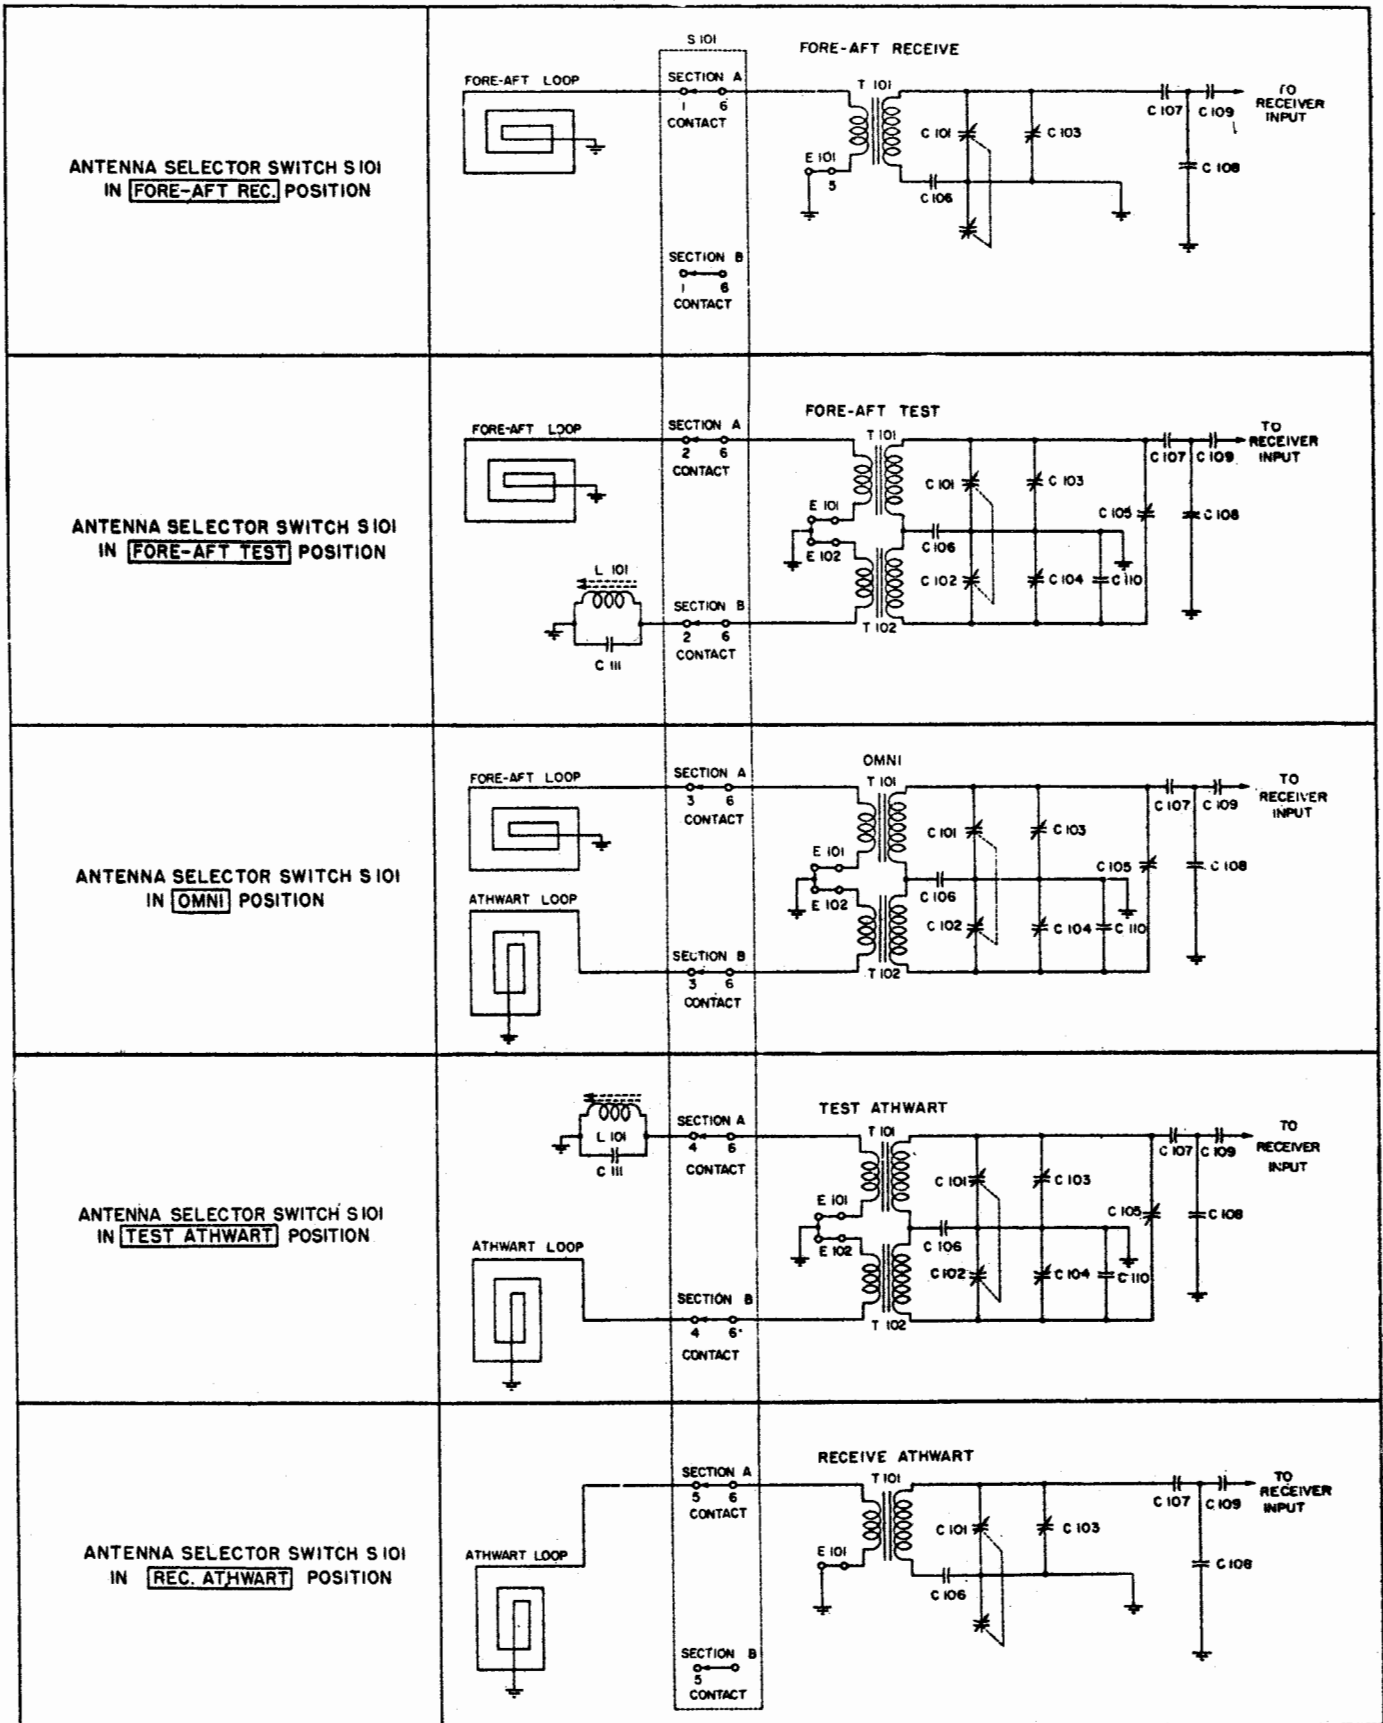

Figure 2-3. Functions of the ANTENNA LOOP SELECTOR Switch on CU-352/BRR.
c. ANTENNA COUPLER.—The various modes of reception are chosen by the ANTENNA LOOP SELECTOR switch (fig. 2-3) on the CU-352/BRR and by the LOOP SELECTOR switch on the CU-352A/BRR. When the switch is in the FORE-AFT REC.